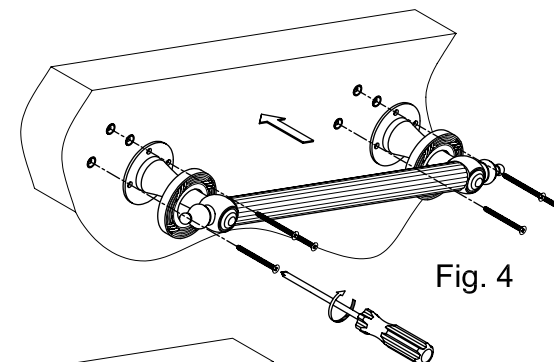

Fig. 4
- Step 4. Place the unit by tightening mounting screws with phillips screwdriver until the base is tightly fixed. (Fig.4)